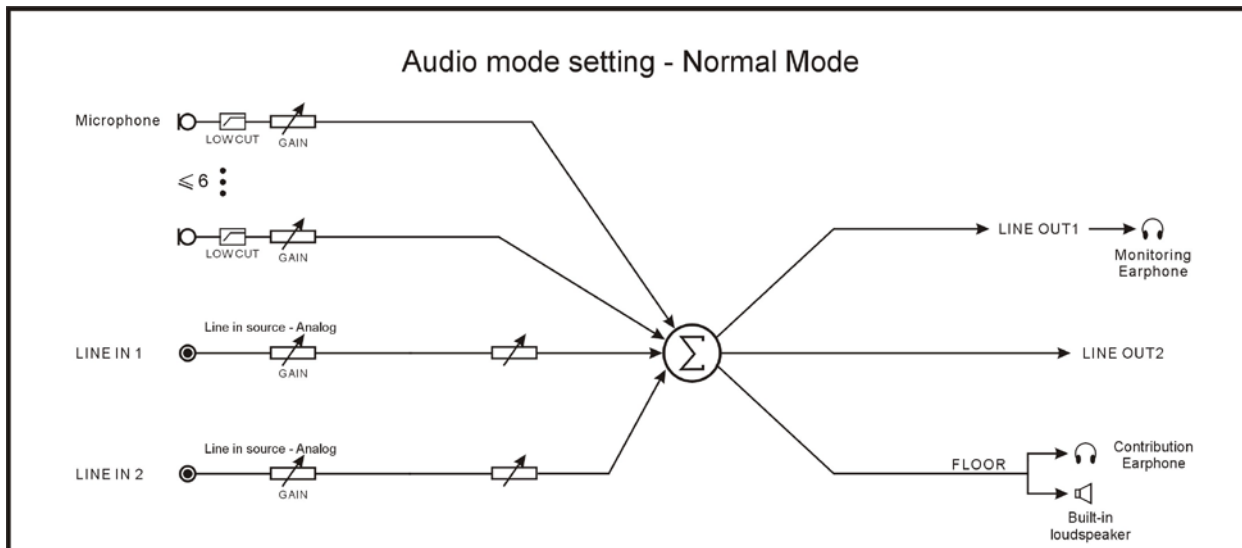

Figure 2.5 Audio mode setting – Normal Mode
- **Normal Mode:** LineOut1, LineOut2, loudspeaker and the conference unit earphones output floor audio (mix output of LineIn1 input signal, LineIn2 input signal and active microphone signal); monitoring earphone output audio signal of LineOut1, as shown in figure 2.5;